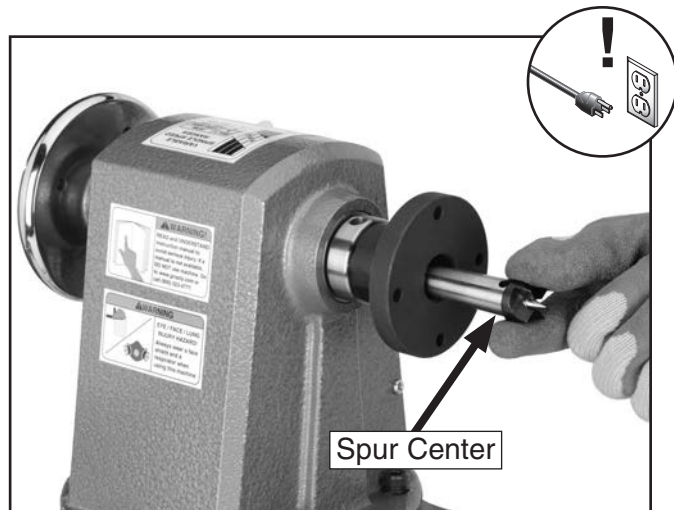

Figure 25. Typical installation of spur center into headstock.
3. Insert tapered end of center into spindle, and push it in quickly and firmly (see **Figure 25**).